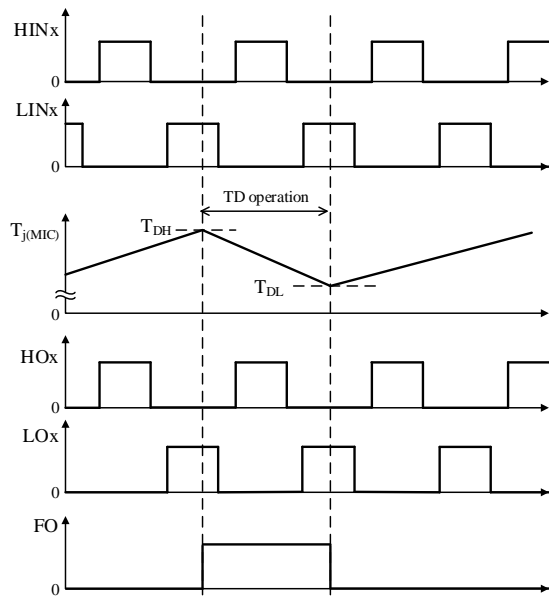

Figure 11-13. TD Operational Waveforms
11.5.2 Thermal Detection (TD)
The IC incorporates the thermal detection (TD) circuit. Figure 11-13 shows TD operational waveforms. In case of overheating (e.g., increased power dissipation due to overload, or elevated ambient temperature at the device), the IC puts the FO pin to a high state.